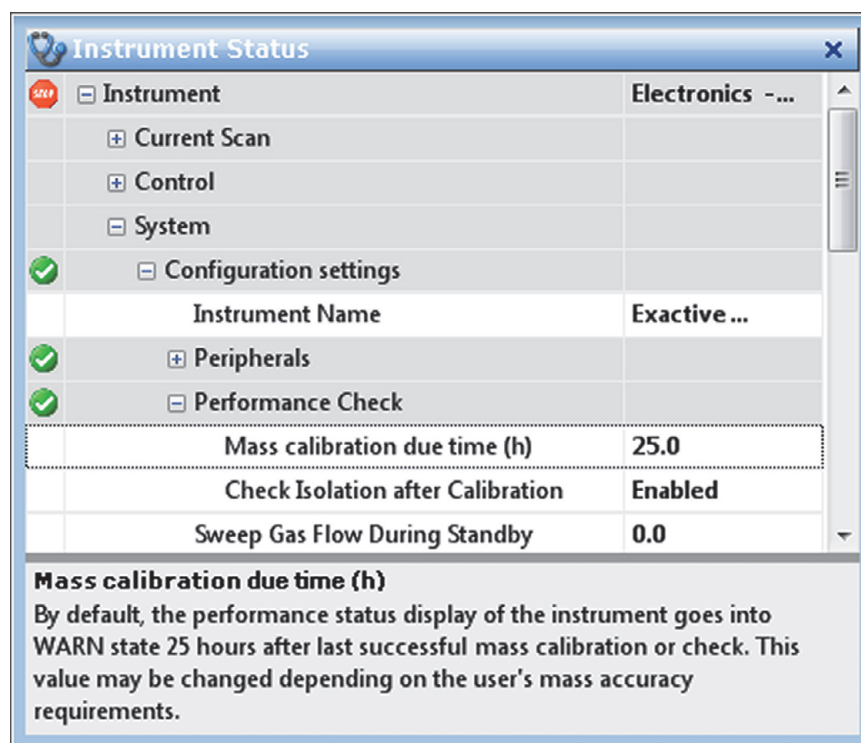

Figure 5-8. Instrument status window—Performance Check node
2. In the instrument status window, click **Instrument > System > Configuration settings > Performance Check**. The Mass calibration due time (h) field displays the current validity period of the mass calibration (25 hours, for example). See Figure 5-8.